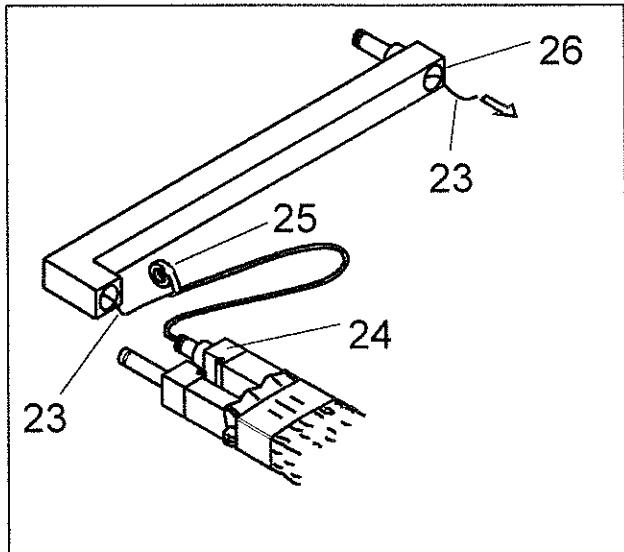

Figure 8 Arm assembly - 1
- a) Tape cable without connector from Scissors Arm "24" (Figure 8) to wire "23" from Extension Arm. Pull wire through hole "26".